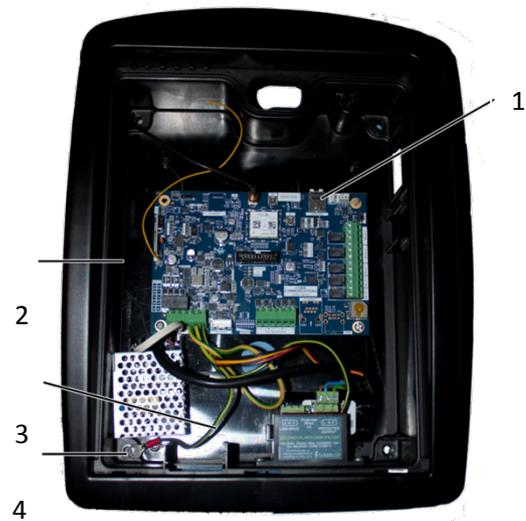

Figure 10: Mounting Plate
17. Insert the SIM card in the slot (1) on the PCB and ensure that it is securely latched (See Figure 10).
18. Align the housing (2) with the mounting plate and replace the top two Allan Capped screws.
19. Place the earth wire (3) in position and replace the Allan Cap screw (4) that secures the earth wire and the housing.